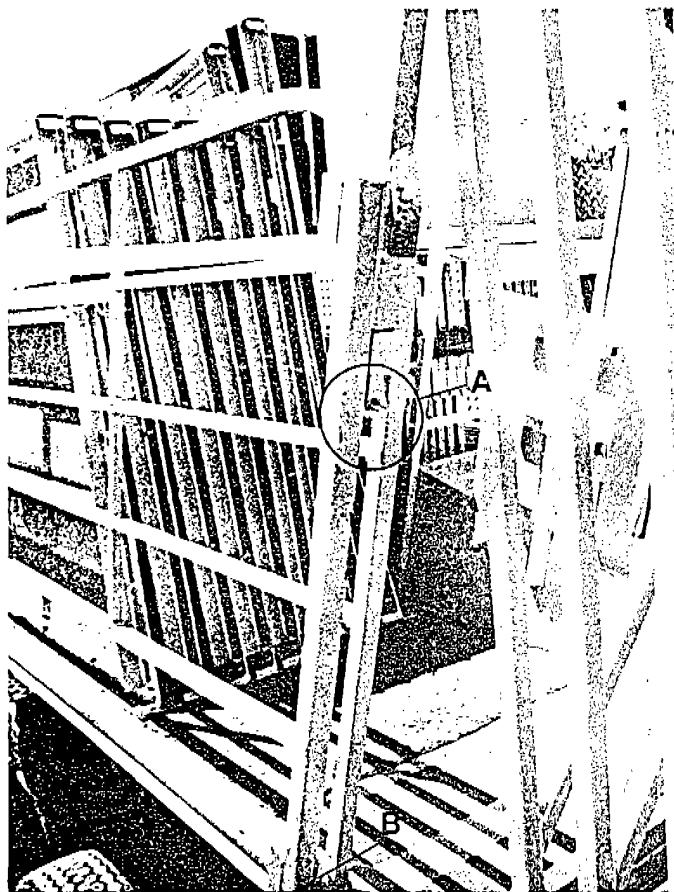

Fig. 87
- b. The starting bar is made up of two bars welded together, side by side. There is a pin at the base of the top bar (a). Slide the pin into the top socket on the handrail. *Snap Key in Place.* The hook at the bottom of the starter bar (b) slips into the square slot on the gooseneck ramp. (Fig. 87)